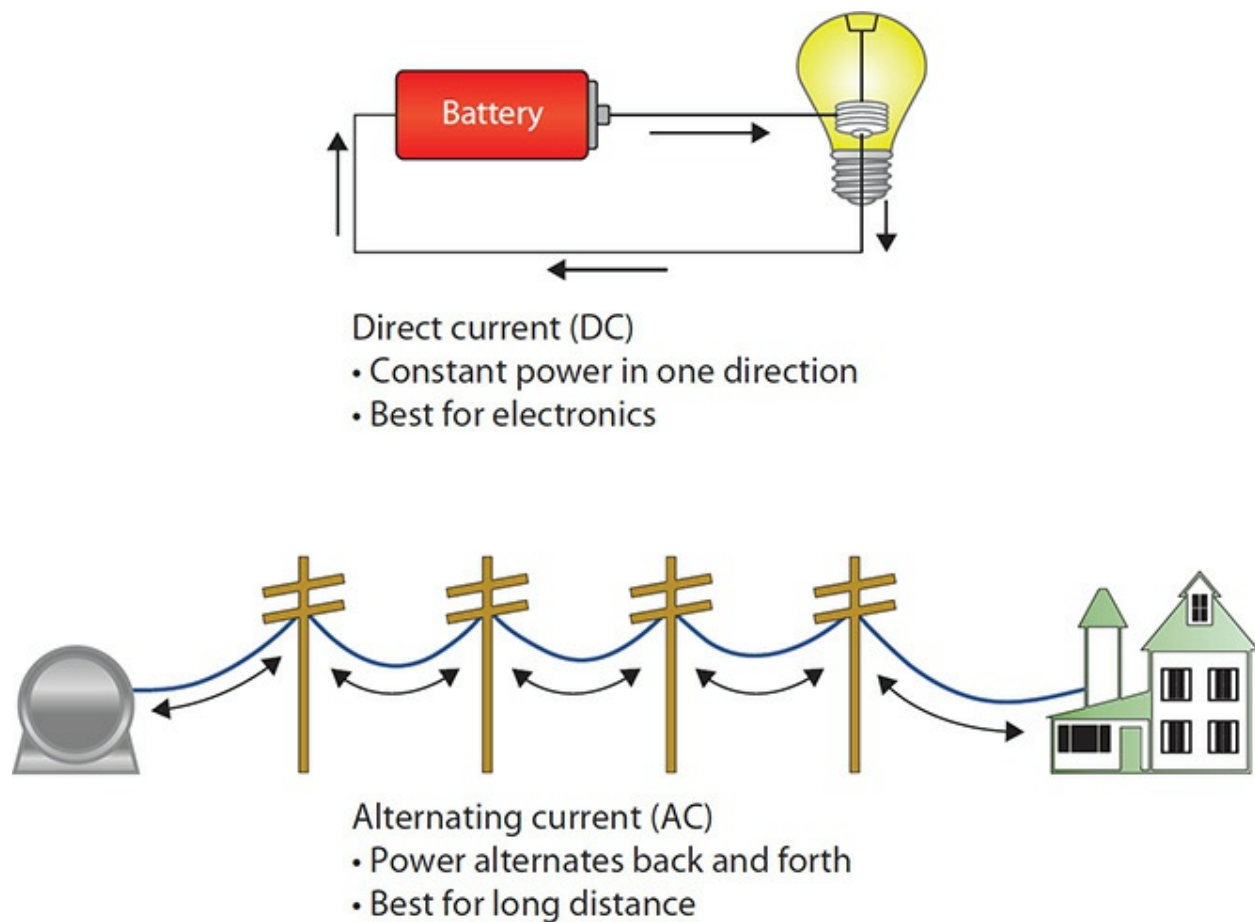

Figure 7-4 Diagrams showing DC and AC flow
Electricity comes in two flavors: *direct current (DC)*, in which the electrons flow in one direction around a continuous circuit, and *alternating current (AC)*, in which the flow of electrons alternates direction back and forth in a circuit (see Figure 7-4). Most electronic devices use DC power, but all power companies supply AC power because AC travels long distances much more efficiently than DC.